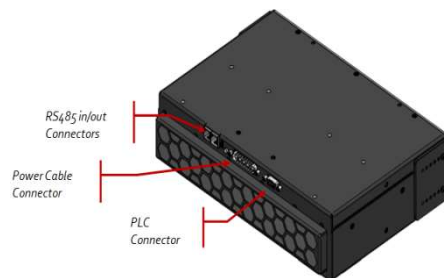

Figure 1: UV LED Head Connection Ports
3. Attach the male end of the power cable to the power supply unit, and connect the female end of the power cable to the UV LED Head per Figure 1 – AC8300P-HD shown.